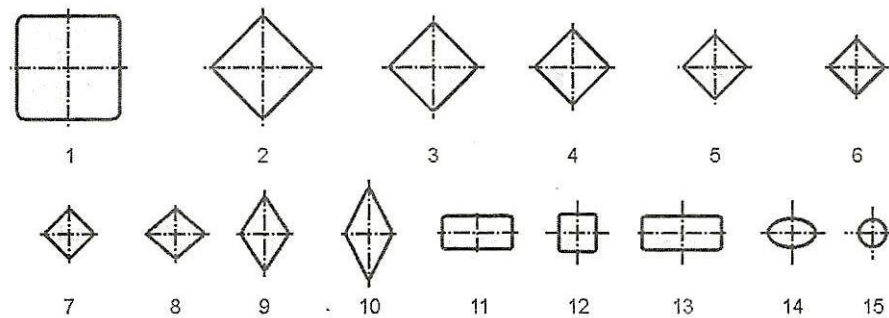

Fig. 3.6 : Various stages of rolling and number of passes for converting a steel billet into a round bar
- Figure 3.6 shows the sequence of rolling and the number of passes required to reduce the cross-section of a billet to a round steel bar.